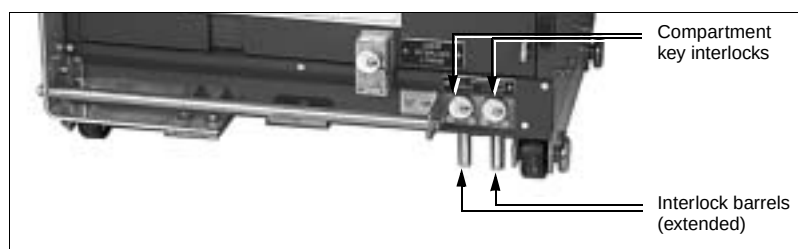

Figure 8: Circuit Breaker Compartment Key Interlocks with Access Doors Closed (Interlock Barrels Extended)
4. Insert interlock keys into the compartment key interlocks located at the base of the G&T device (see Figure 8).